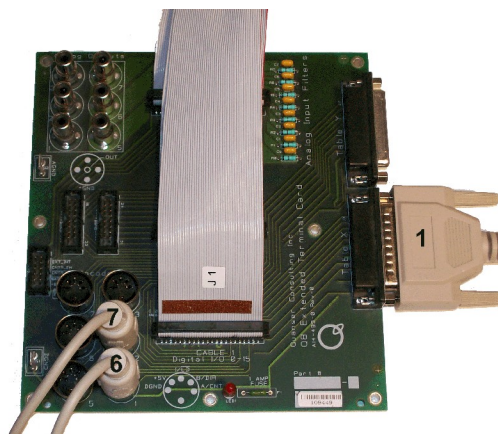
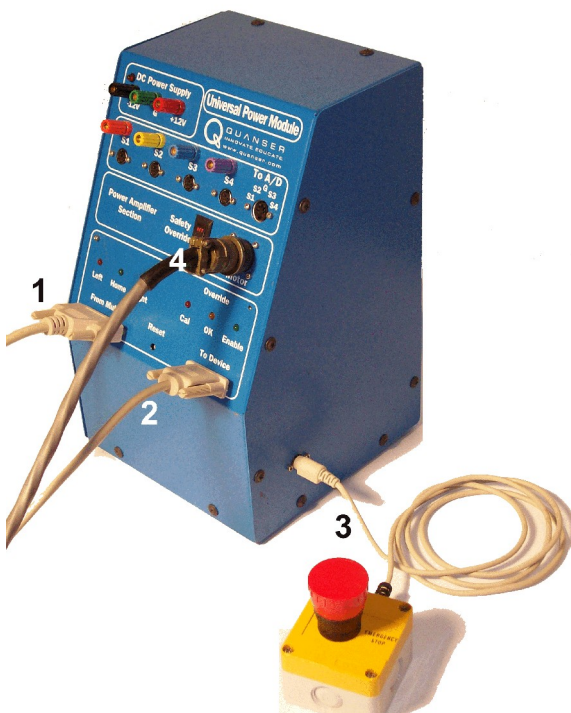
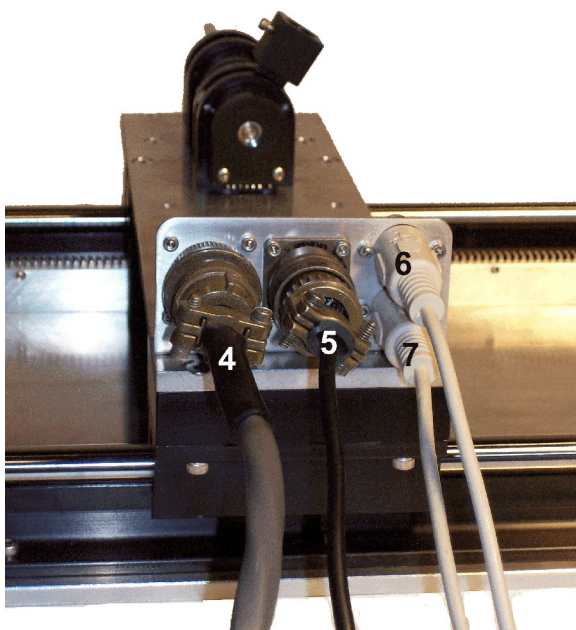
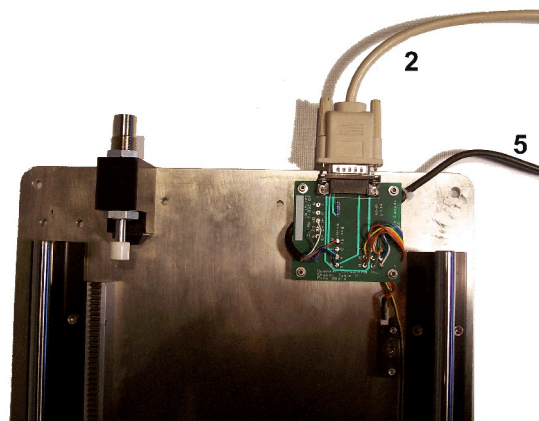

Figure 13 Connections on the Q8 Extended Terminal Board.
Figure 14 Connections on the UPM-180-25B.
Figure 15 Connections on the linear cart.
Figure 16 Connections on HFLC circuit board.
Wire your HFLC system as described, the following connections, presented in Table 11 below, are attained. Figures 13, 15, 7, and 16 show, respectively, that the HFLC system typical connections on the Q8 Extended Terminal Board, the Universal Power Module (UPM-180-25B), the linear cart, and the HFLC circuit board. The HFL cart wiring is discussed in
1. **Connect cable #1** from the "Table X" connector on the Quanser Q8 Extended Terminal Board, shown in Figure 13, to the "From MultiQ" connector on the Quanser UPM-180-25B, as depicted Figure 14. This connection is done using the parallel cable shown in Figure 10. See Appendix B for a listing of all the signals that are passed through this cable.
2. **Connect cable #2** from the "To Device" connector located on the UPM front panel, as shown in Figure 14, to the HFLC circuit board illustrated in Figure 16. This cable used in this connection is the DB15 cable described in Table 9 and pictured in Figure 9. It carries all three proximity sensor signals, the motor encoder signals, and the brushless motor hall sensor signals to the UPM-180-25B unit. The motor encoder is used to calculate the linear position of the cart and is denoted by the variable  $x$ .
3. **Connect cable #3** into the side of the UPM, as presented in Figure 15. Cable #3 is the "Emergency Stop" cable described in Table 9 and illustrated in Figure 11. The UPM is active if and only if the remote E-Stop switch is *depressed*.
4. **Connect cable #4** from the "Motor" connector located on the UPM front panel, as depicted in Figure 14, to the "Motor" connector on the linear cart, as shown Figure 15. Cable #4 plugs into the motor leads connector represented in the nomenclature by component #18 and pictured in Figure 3. This connection is done using the "Motor" cable described in Table 9 and illustrated in Figure 8. It carries the required 3-phase power to the brushless motor.
5. **Connect cable #5** from the HFLC embedded circuit board, see Figure 16, to the linear cart as illustrated in Figure 15. Cable #5 plugs into the motor encoder and hall sensors connector represented in the nomenclature by component #19 and pictured in Figure 3. It carries the brushless DC motor encoder signals and power supply, as well as its hall sensor signals used by the amplifier for proper commutation.
6. **Connect cable #6** from the "Front Pendulum" connector on the linear cart, shown in Figure 15, to the "Encoder Input #1" connector on the Q8 Extended Terminal Board, as illustrated in Figure 13. This connection is done using the 5-pin-stereo-DIN to 5-pin-stereo-DIN encoder cable listed in Table 9 and shown Figure 12. It carries the necessary signals to measure the angular position of the linear cart's front shaft and the corresponding variable is  $\alpha$ .
7. **Connect cable #7** from the "Rear Pendulum" connector on the linear cart, shown in Figure 15, to the "Encoder Input #2" connector on the Q8 Extended Terminal Board, as depicted in Figure 13. This connection is done using the 5-pin-stereo-DIN to 5-pin-stereo-DIN encoder cable listed in Table 9 and shown Figure 12. It carries the signals required to measure the angle the rear T-fitting that sits on top of the linear cart and its associated variable is  $\theta$ .